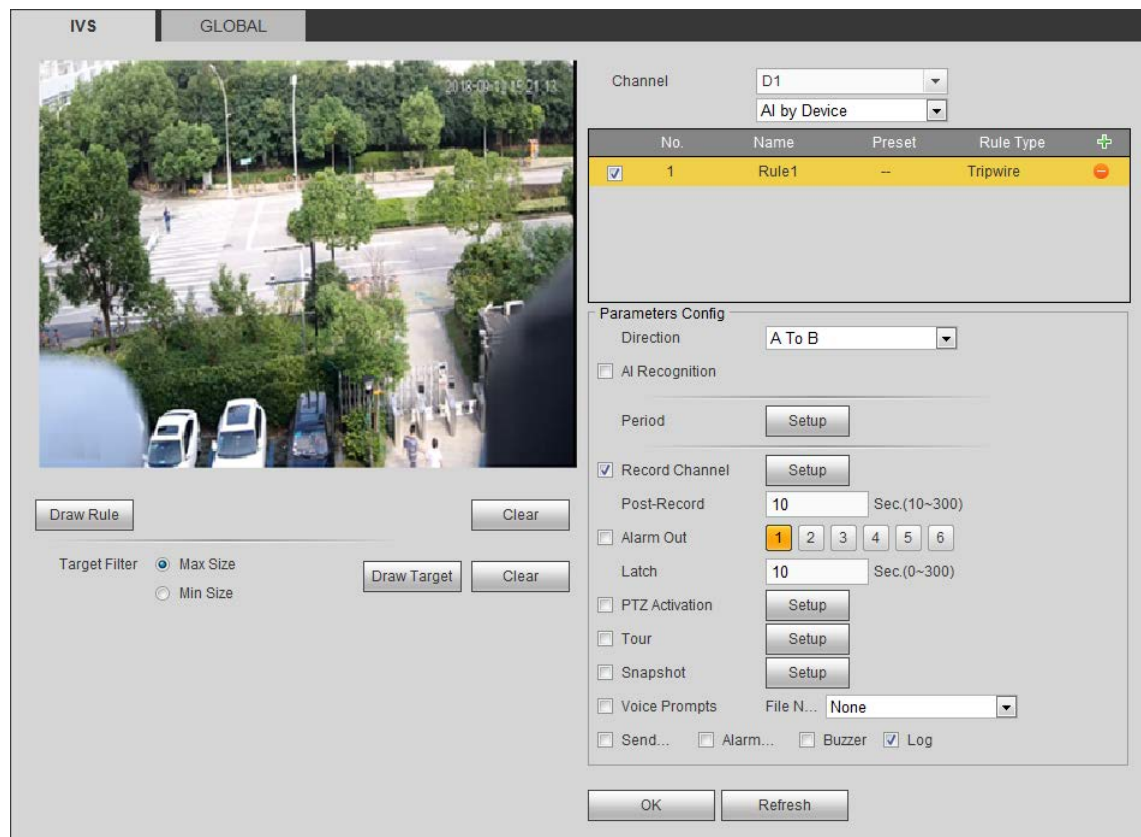

Figure 5-73
Step 3 Click  and select the rule type according to the actual needs. See Figure 5-73.